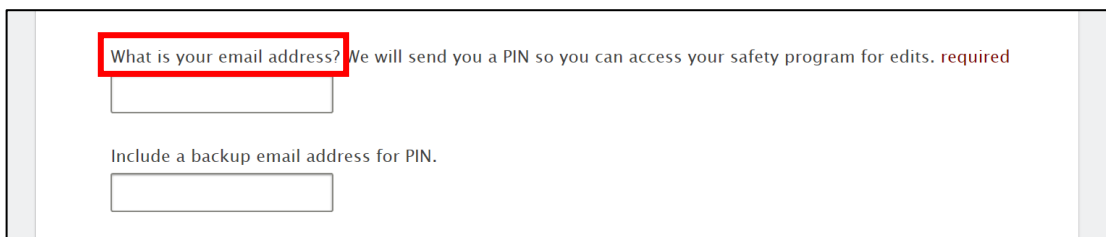

Figure 4. Enter your email address to get a Safety Program ID.
- Your email (see *Figure 4*) will be used to send you a Safety Program ID so that you will be able to make changes to your safety program. Your information is not shared with anyone.